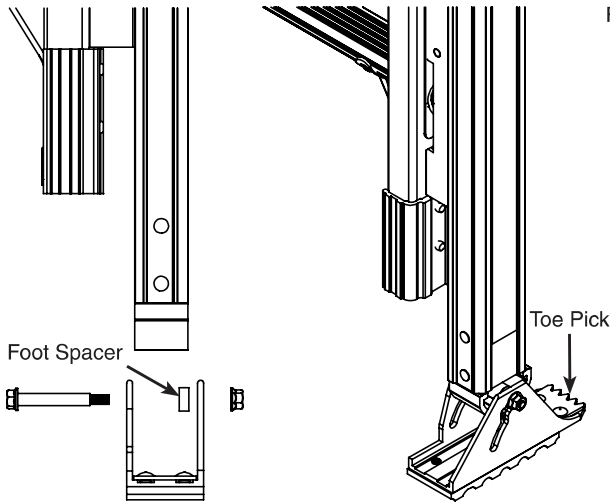

Fig. 7
- Making sure the toe pick is to the back of the ladder, attach previously removed feet from the ladder to the leveler. From the center of the ladder, pass the bolt through the slot on each foot and through the bottom hole of the leveler. The foot spacer goes between the outside of the leveler and the inside of the foot. (Fig. 7) Using $\frac{7}{16}$ inch (11mm) socket and wrench, tighten nut to bolt on each foot. (Fig. 7)